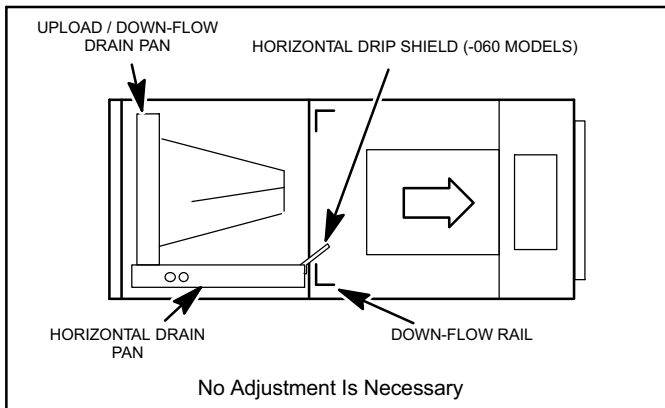

Figure 2. Right-Hand Discharge Configuration
2. Install the horizontal shield on the front edge of the horizontal drain pan as illustrated in figure 2.